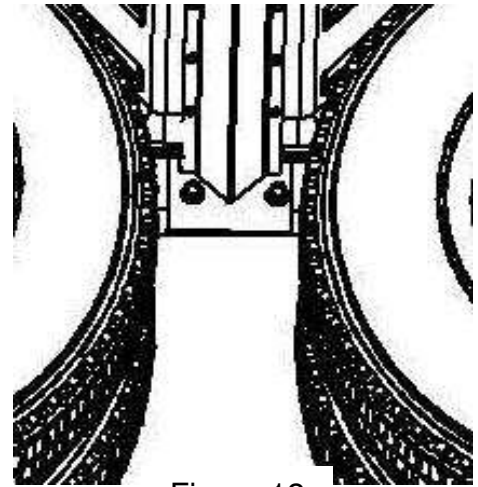

Figure 12
A. The center bracket (PB2011) will be welded to the truck frame. It is possible to bolt a plate (not supplied) to the frame and weld the brackets to that plate (Figure 12). Another option is to weld the bracket directly to the frame.